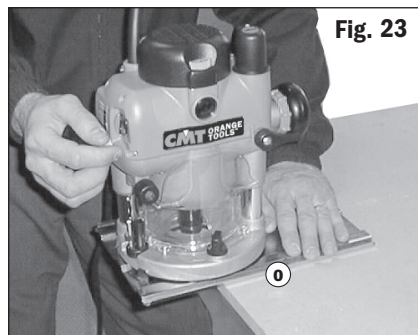

Fig. 23
2. Position the router inside the tabs on the Base (o), with the knobs above the two keyhole slots. **Note:** the router can be mounted with the long overhang to the left or to the right depending on where the support is required. For edge work, locate the power switch on the short overhang side of the base, as shown in Fig. 23.
Place one hand on the long end of the base, holding it down onto your work, and grip the router handle, furthest away, with your other hand. **Fig. 23.** **Note:** position the router with the power switch closest to your right hand.
Fit the Fence (r) to the short end of the base (o) for use when performing edge work with a non-bearing cutter. Use the hand positions shown in **Fig. 23.**